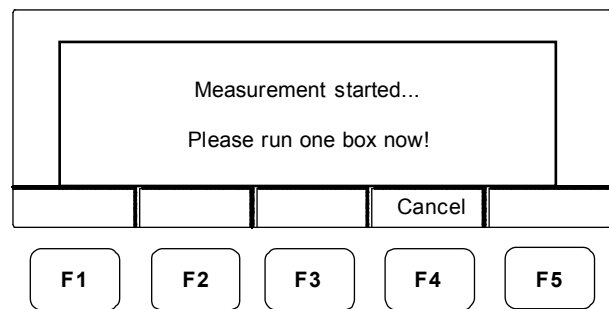

Figure 13-11.
3. Press F2 (Yes). The measuring cycle starts and the “Measurement started...Please run one box now” message displays (Figure 13-11).